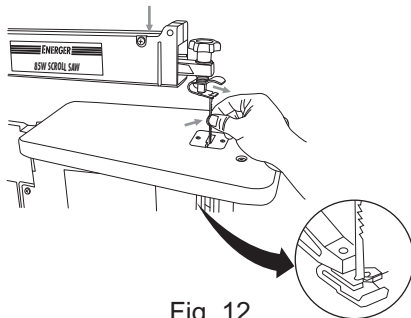

Fig. 12
- > Remove blade by pulling forward on blade and then lifting the blade through the access hole in the table. Slight downward pressure against the upper arm may be helpful when removing blade from upper holder. (Fig. 12)